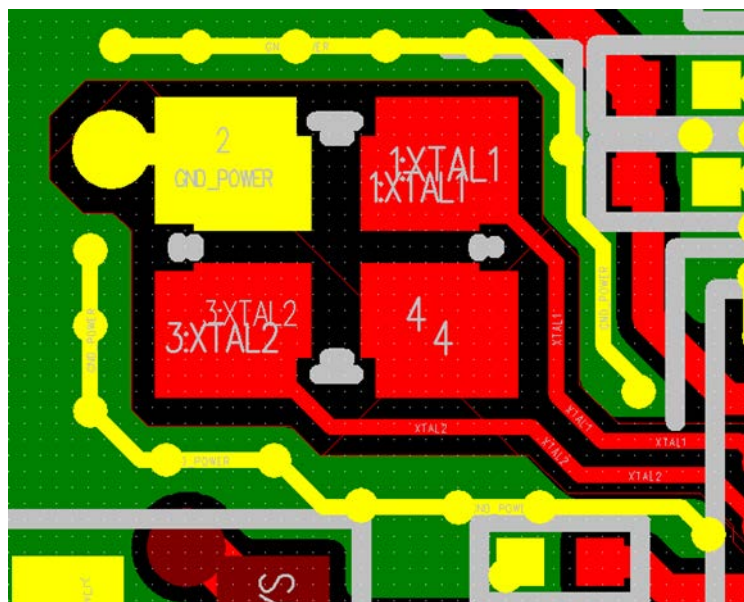

Figure 7. Crystal 26M gnd vias of the AB1568 EVK daughter board
- Add more vias between the crystal and the antenna trace, please refer to Figure 7.